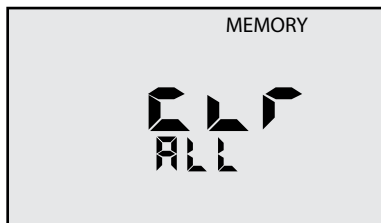

Figure 9
6. To clear **all** records: After pressing MR , scroll down. "CLR ALL" will be displayed (see Figure 9).